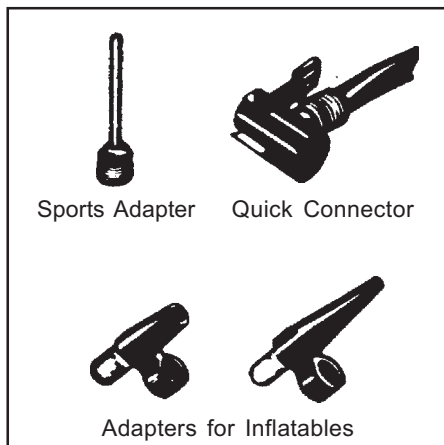
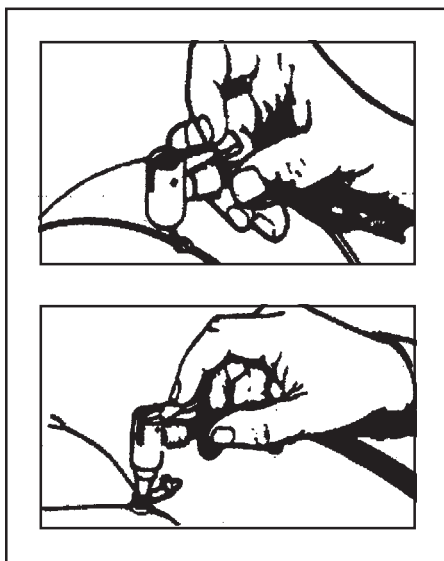

Fig. 3
Fig. 4
1. To inflate air mattresses, beach balls, life jackets etc., select the suitable adapter (Fig.3), then insert and secure into the Quick Connector (see Fig 4).
2. Insert the connected adapter into the appropriate receiver on the inflatable (see Fig.4).